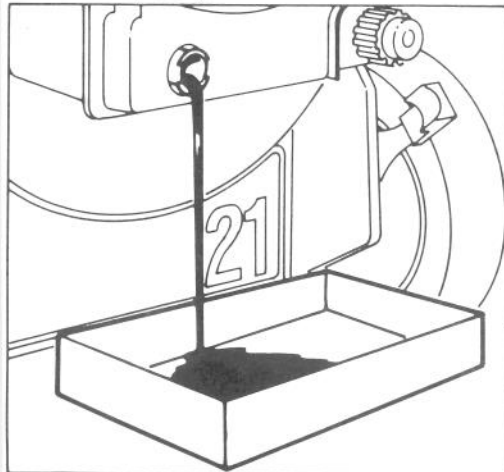

Figure 15
3. Remove dipstick. Tip mower forward and empty all oil into drain pan (Fig. 15). Tip mower down and up a few times to ensure oil drains completely.